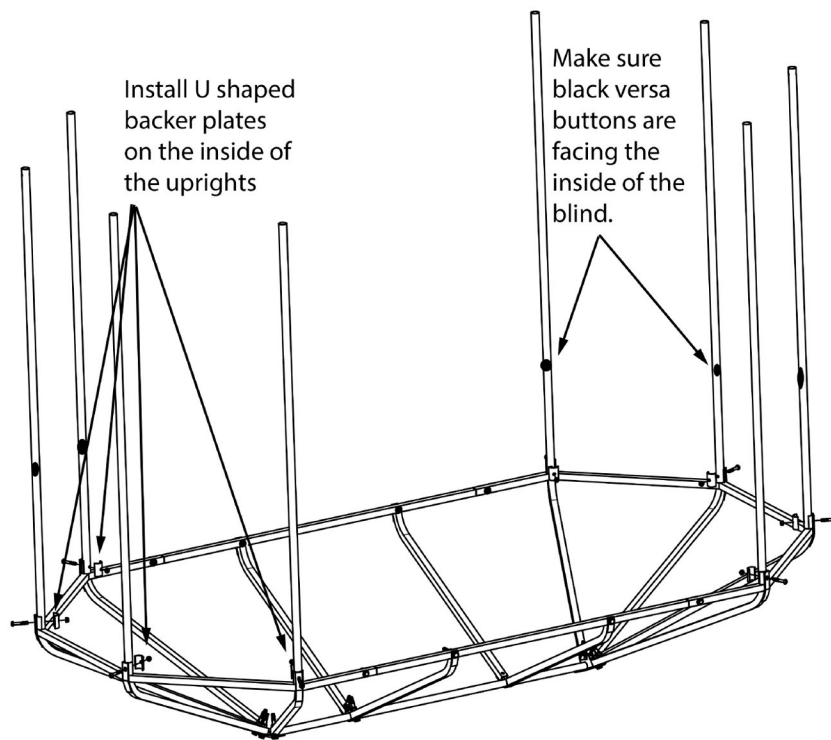

Figure 5-B
Step 5. Turn the roof assembly upside down and install the long uprights onto the roof assembly using eight $\frac{1}{4}$ x 1-3/4" socket head bolts, eight U shaped backer plates and eight nuts as seen in Figure 5-A. Make sure versa buttons are facing the inside of the blind as seen in Figure 5-B